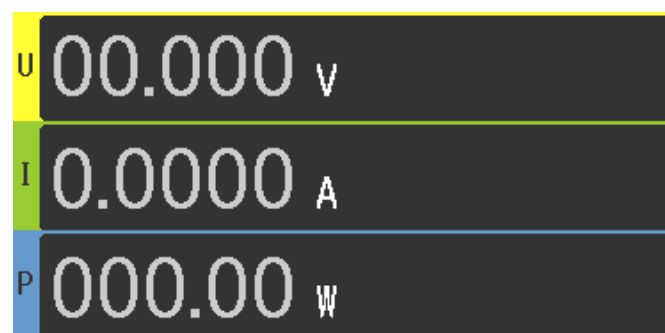

Figure 4-2
****U,I,P PPoff:** as shown in Figure 4-2, display voltage, current and power values